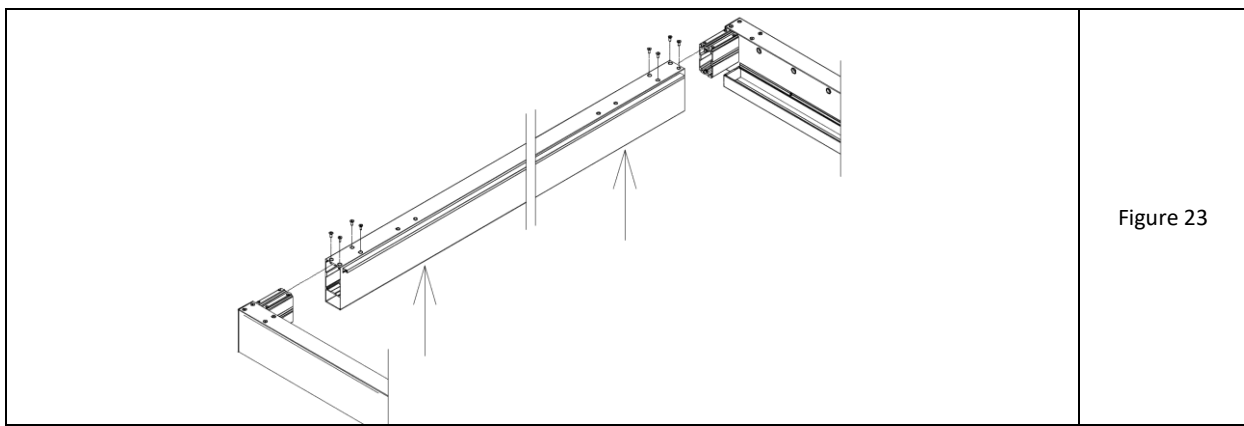

Figure 23
2. Insert the lengthwise beams successively to both ends with the bone into the wall beam chamber (fig. 23).